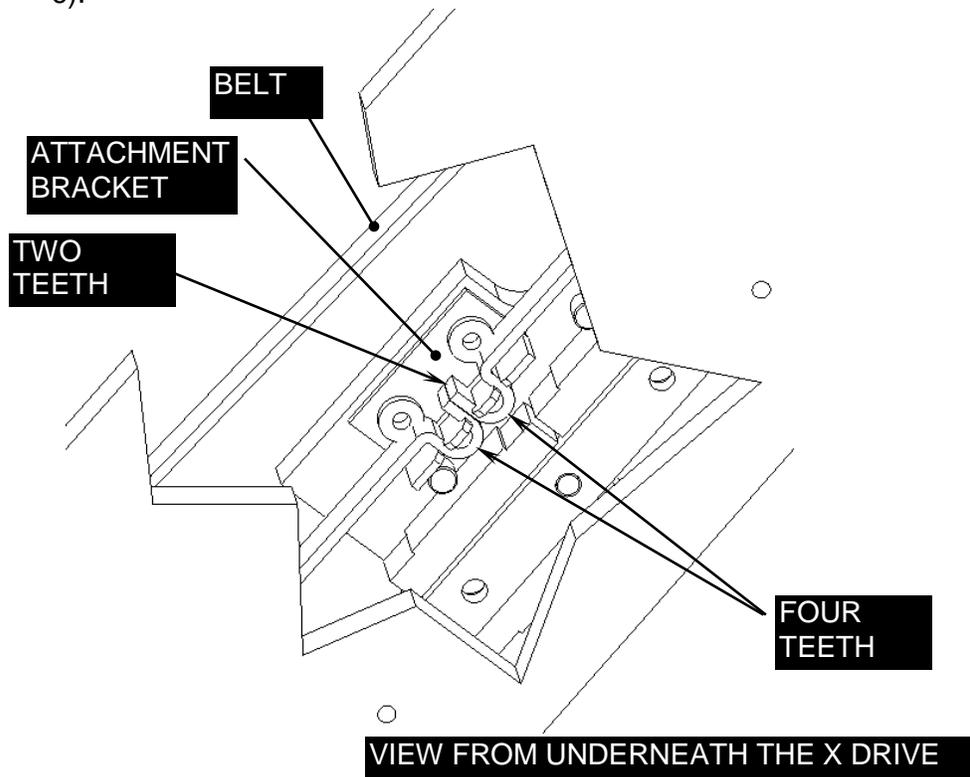

Figure 9-6: Looping Belt onto Attachment Bracket
1. Cut a 988mm length of the Gates Rubber belt LL2MR06, 2mm Pitch x 6mm wide and loop it around the motor pulley and fit the two cut ends in to the X Belt Attachment Bracket with two teeth through the centre and four teeth in the back loop (Figure 9-6).